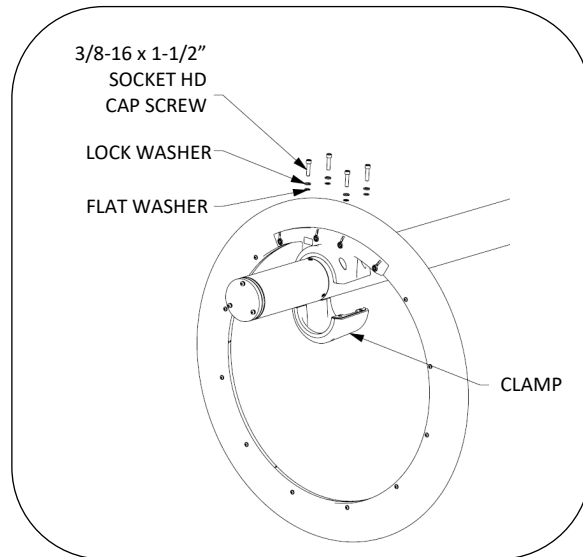

Fig. 8 – Install clamp
13. Attach the front half of the luminaire clamp using (4) 3/8-16 x 1-1/2" socket head cap screws, lock washers and washers. Alternate tightening screws until all are snug. See Fig. 8.